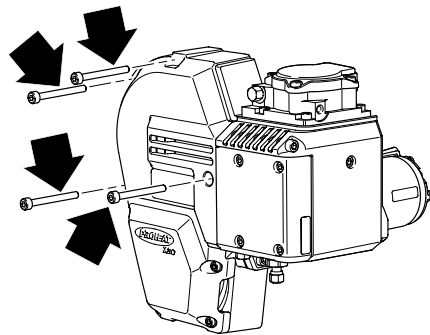

Figure 4-19. Burner Head Removal.
- c) Remove the four burner head bolts shown in figure 4-19, and remove burner head to gain access to exhaust flange and O₂ Sensor harness connector.